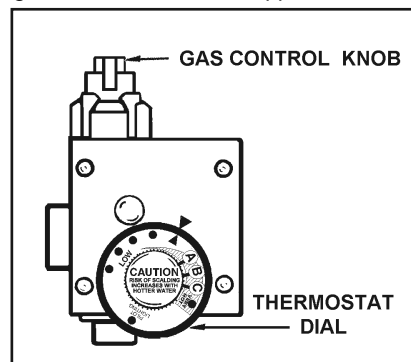

FIGURE 15.
**HOTTER WATER CAN SCALD:** Water heaters are intended to produce hot water. Water heated to a temperature which will satisfy space heating, clothes washing, dish washing, and other sanitizing needs can scald and permanently injure you upon contact. Some people are more likely to be permanently injured by hot water than others. These include the elderly, children, the infirm, or physically/mentally handicapped. If anyone using hot water in your home fits into one of these groups or if there is a local code or state law requiring a certain temperature water at the hot water tap, then you must take special precautions. In addition to using the lowest possible temperature setting that satisfies your hot water needs, a means such as a mixing valve should be used at the hot water taps used by these people or at the water heater. Mixing valves are available at plumbing supply or hardware stores, see Figure 2. Follow manufacturer's instructions for installation of the valves. Before changing the factory setting on the thermostat, read the "Temperature Regulation" section in this manual, see Figures 15 and 16.